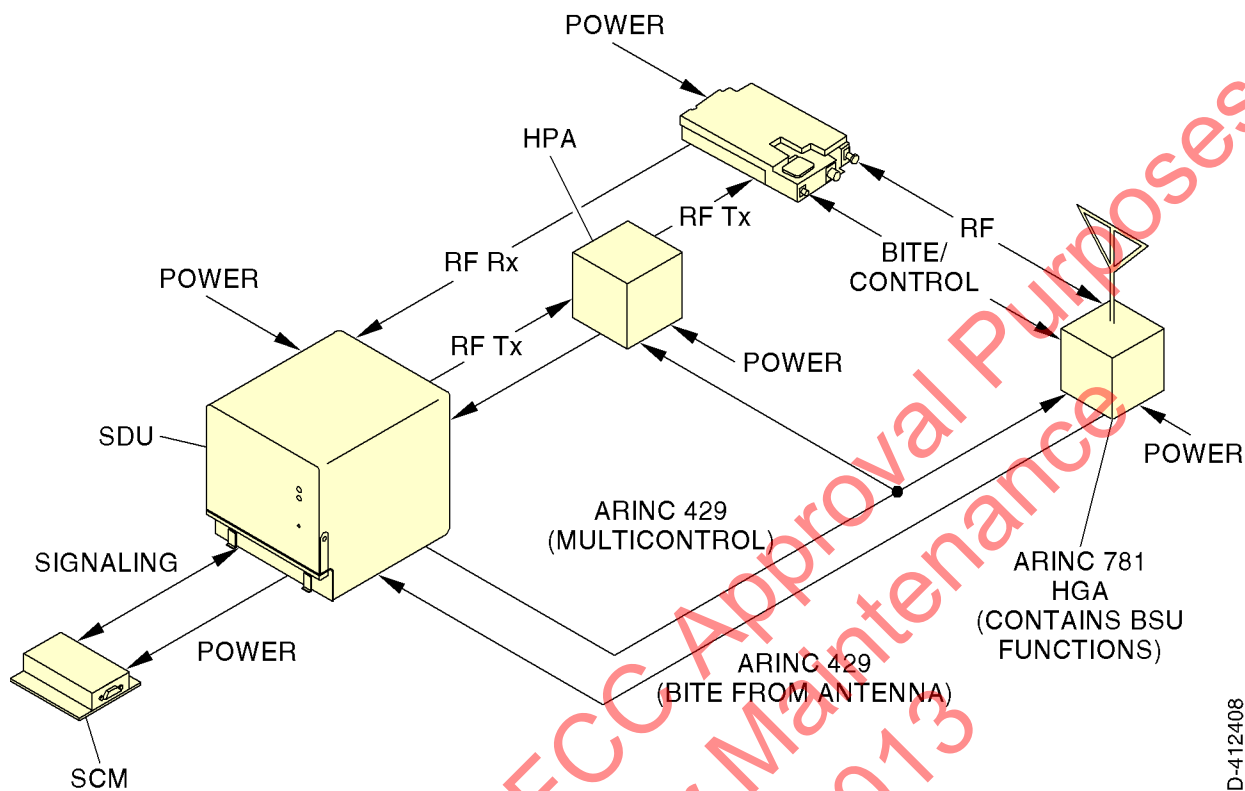

Figure 7. (Sheet 1 of 1) A350 SATCOM Avionics System (GRAPHIC 23-15-30-99B-807-A01)
(3) Refer to Figure 7 (GRAPHIC 23-15-30-99B-807-A01) for the A350 SATCOM Avionics System.